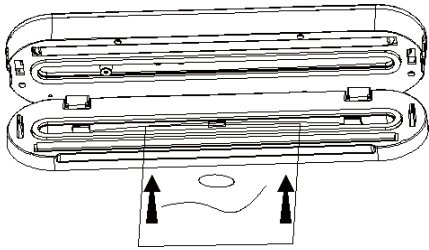

Figure 1
- 3.Put the open end of the vacuum packaging bag into the vacuum chamber of the machine (generally 3-5mm beyond the wall of the vacuum chamber) to ensure that the bag does not leak air, as shown in Figure 1.